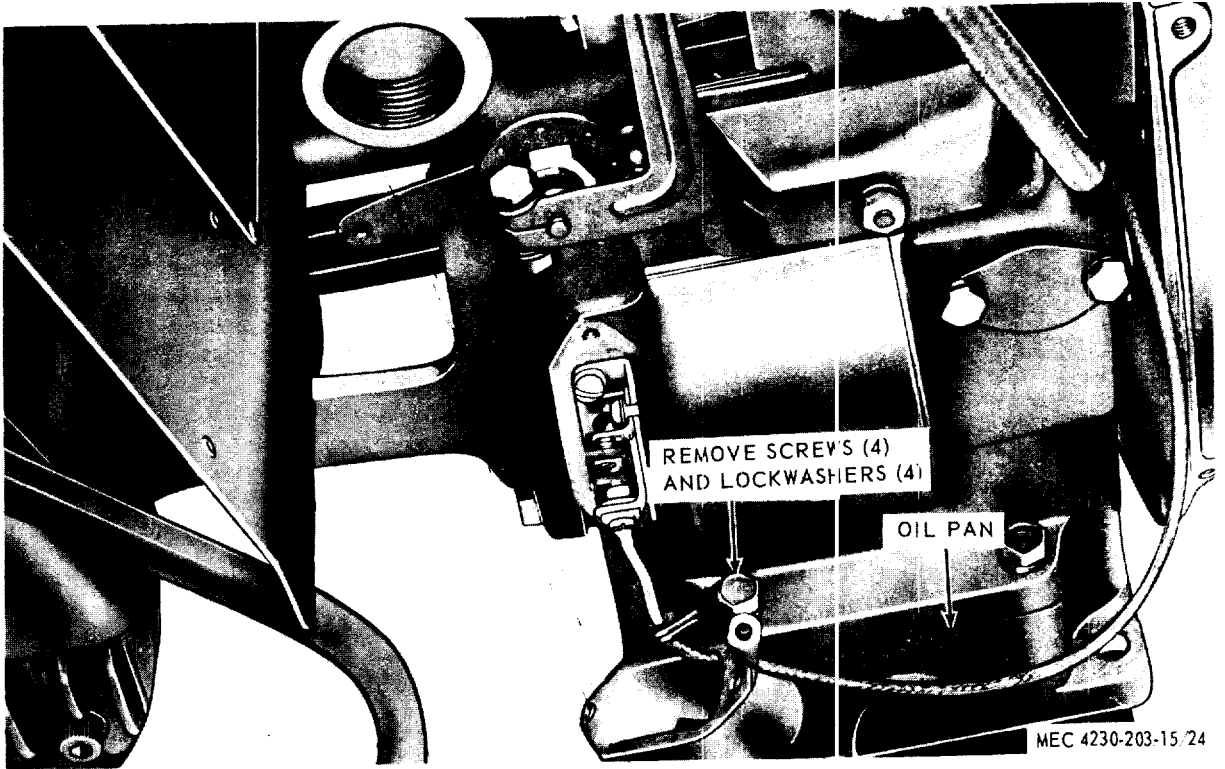

Figure 4-17. Oil pan removal and installation.
(1) Remove the engine (para 4-14).
(2) Refer to figure 4-17 and remove the oil pan and gasket.
(1) Refer to figure 4-17 and install the oil pan and gasket.
(2) Install the engine (para 4-14).